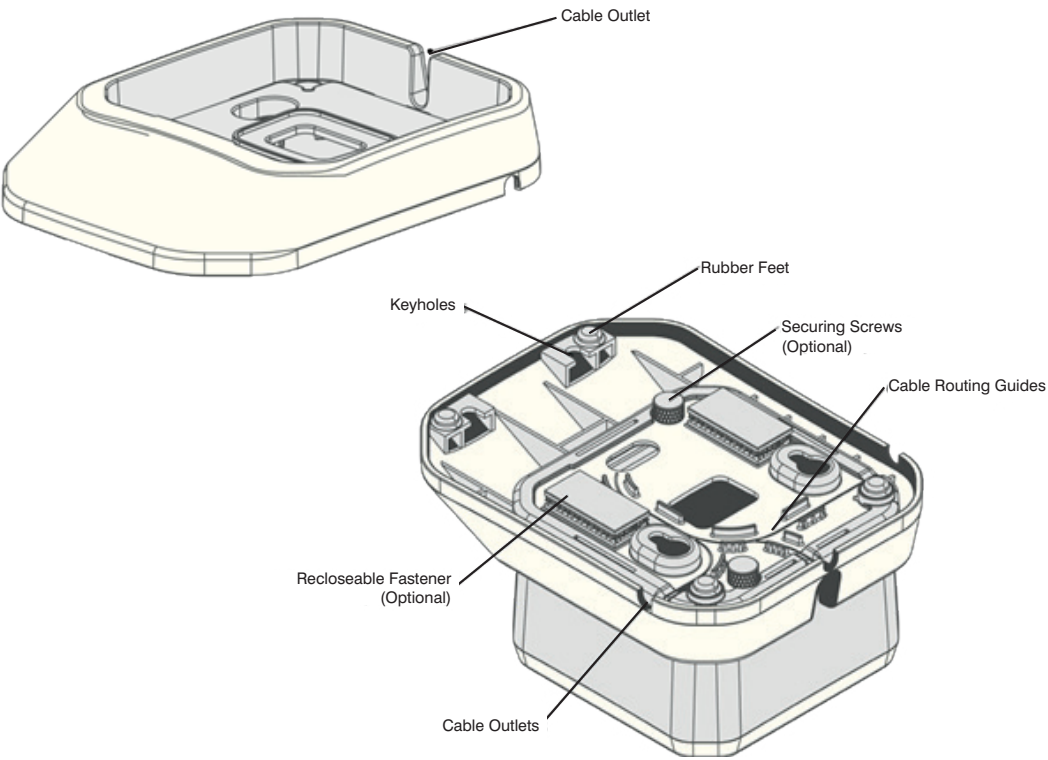
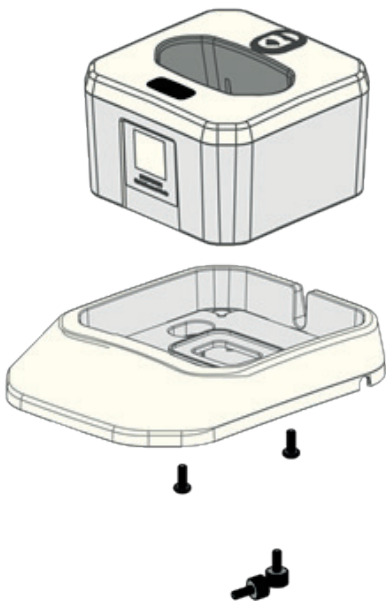

Figure 4 Desktop Base Features
Figure 8 Install and Secure Desktop Base
- Run the cable along the cable routing guides on the bottom of the charging station. If the charging station will be placed into a desktop base, the cable should exit through the opening in the back of the charging station (see Figure 8).
The Desktop Mount provides extra charger stability when the charger is free standing on a counter or desk. Place the charging station into a desktop base (Figure 8). The charging station can be secured onto the base using two pan head screws supplied with the desktop base. The desktop base can be fastened onto a flat surface using included multi-use adhesive tape, if desired (see Figure 4 for locations to attach the tape